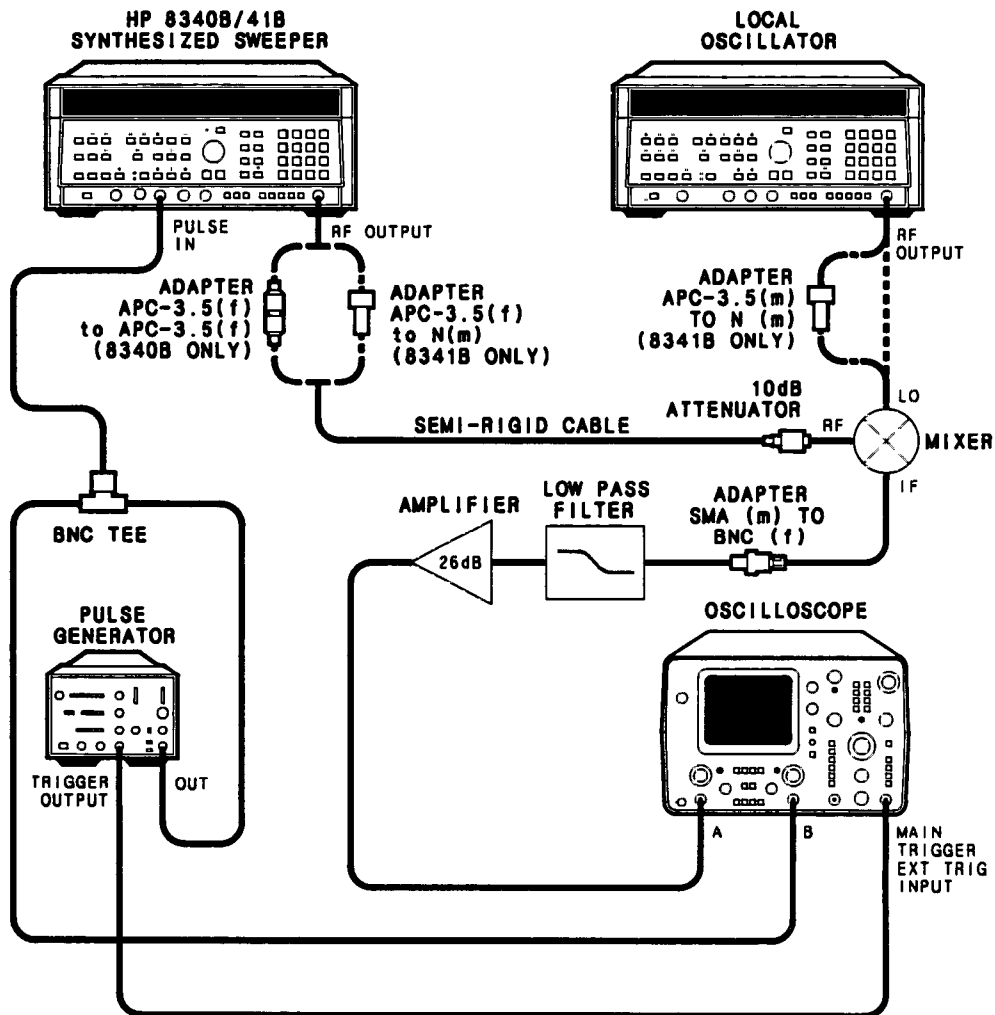

Figure 4-13. Pulse Modulation Rise and Fall Time Test Setup
1. Connect equipment as shown in Figure 4-13. Connect the mixer directly to the local oscillator RF output to obtain maximum LO drive to the mixer. Connect the BNC tee directly to the HP 8340B/41B PULSE IN connector. Allow a one hour warm up time.